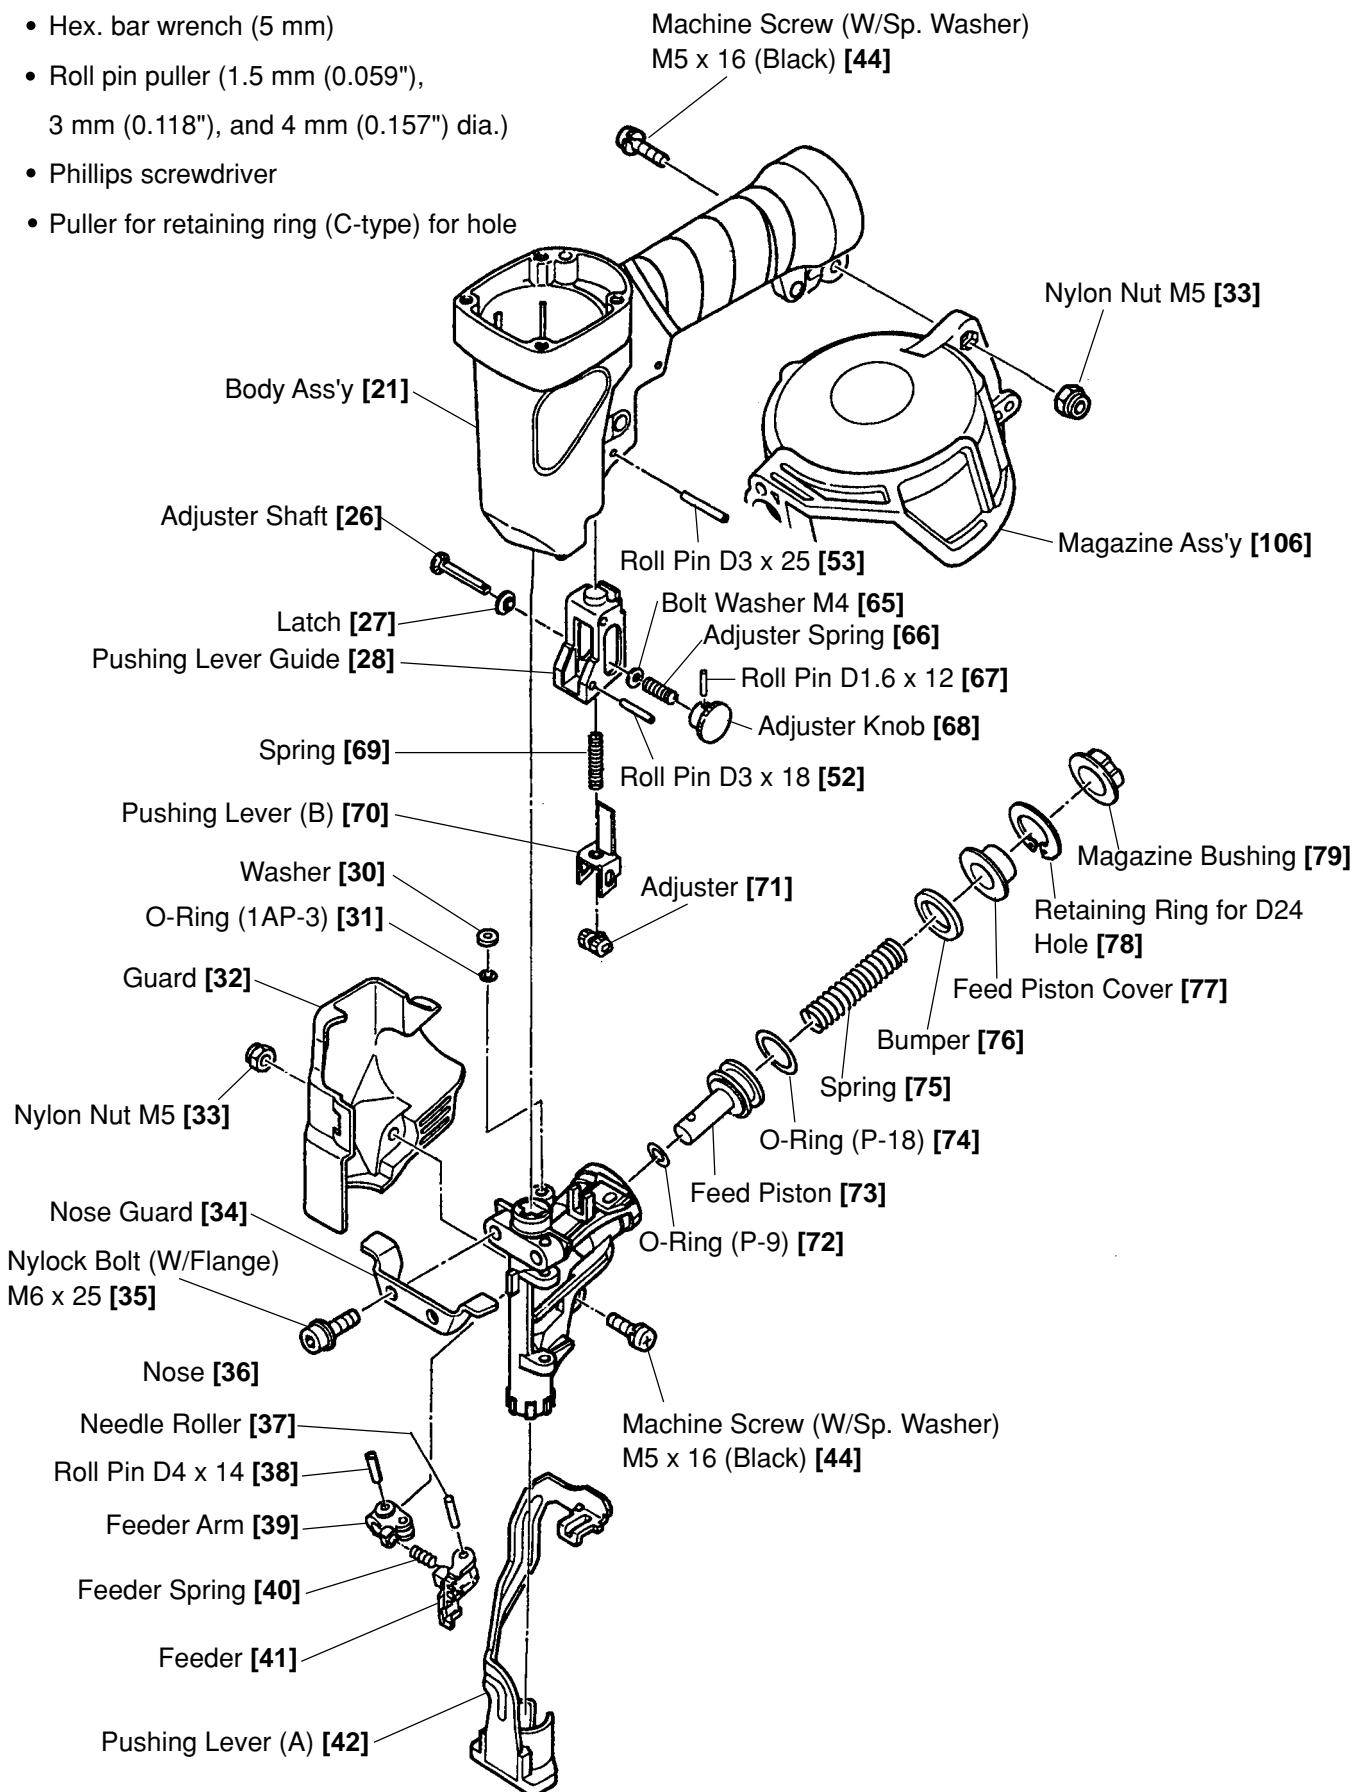

Fig. 17 Disassembly and reassembly of the driving section
#### 10-4. Disassembly and Reassembly of the Driving Section (See Fig. 17)
(See Fig. 17)
(2) Disassembly and reassembly of the adjuster section (See Fig. 17)
(3) Disassembly and reassembly of the Feeder [41], Feed Piston [73], etc. (See Fig. 17)